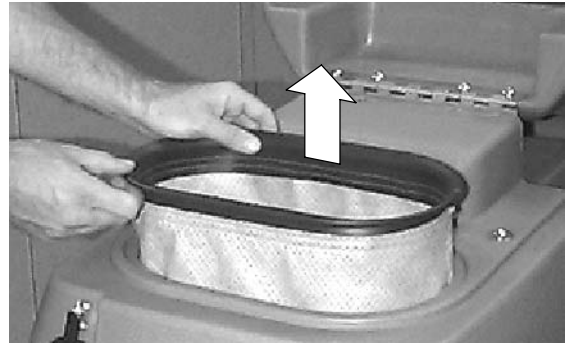

FIG. 9
- Open machine cover and remove vacuum bag from recovery tank (Figure 9).